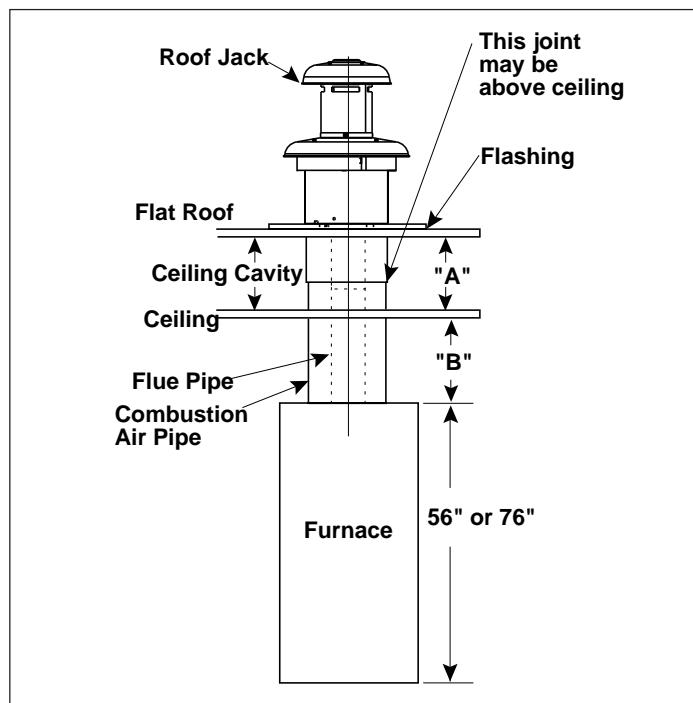

Figure 1. Roof Jack Assemblies
- a. Determine depth of ceiling cavity from center of roof opening to center of ceiling opening. (See Dimension "A" in Figure 1).
- b. Determine ceiling height and subtract height of furnace. (See Dimension "B" in Figure 1).